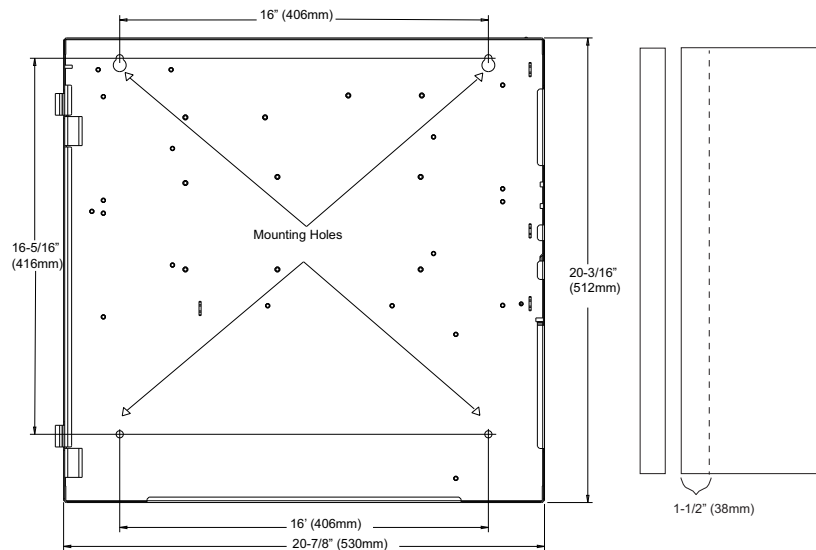

Figure 2-2. Back Box Installation dimensions and Semi-Flush Mounting (Right)
- To install the panel refer to Figure 2-2 for the dimensions and use the holes in the back box to secure it to the wall.